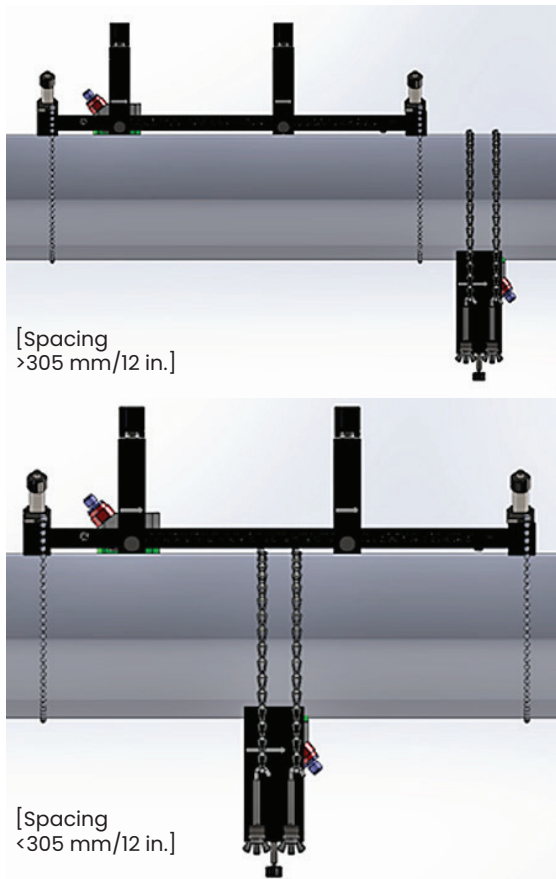

Figure 33: Completed odd-traverse installation (top view)
- Tighten the yoke screw until the transducer firmly contacts the pipe. Your completed odd-traverse installation should look like *Figure 33* below.